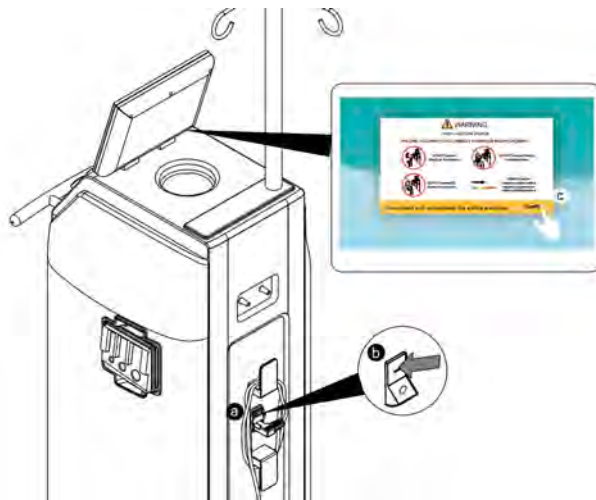

Figure 7 High Suction Device Warning
- c. Read the WARNING message on the user interface, then tap the OK key to access the CONTROL screen (Figure 7).